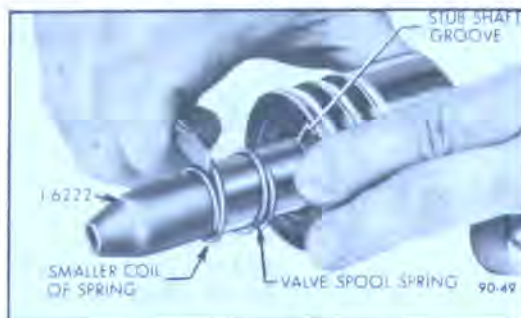

Figure 90-44 Installing Valve Spool Spring
5. Place seal protector J-6222 over stub shaft and slide valve spool spring over stub shaft with smaller diameter coil going over end of shaft last. See Figure 90-44. Work spring on shaft with a small screwdriver until small coil of spring is seated in the stub shaft groove. Be careful not to damage surface of shaft.